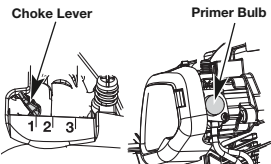

Fig. 5
- Fully press and release the primer bulb 10 times, slowly. Some amount of fuel should be visible in the primer bulb and fuel lines (Fig. 5). If fuel can not be seen in the bulb, press and release the bulb until fuel is visible.
- Place the choke lever in **Position 1** (Fig. 5).
- Place the choke lever in **Position 2** (Fig. 5)
- Continue squeezing the throttle control, move the choke lever to **Position 3** (Fig. 5) and continue warming the engine for an additional 60 seconds. The unit may be used during this time.
IF... the engine hesitates, return the choke lever to **Position 2** (Fig. 5) and continue warm-up.